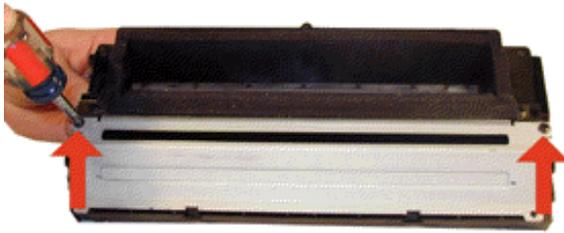

FIGURE 10
4. Remove the two screws on the metal brace, and the brace. See Figure 10